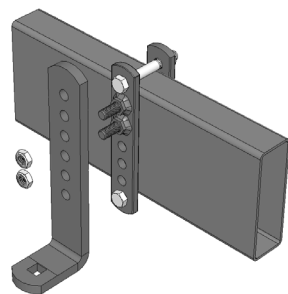

Figure 10
Slide the L-brackets onto the link plate studs with the spring arm plate facing away from the trailer. For the initial setup, leave two (2) holes showing at the top above the studs and two (2) below. They may need to be adjusted up or down later. Thread on the nylock nuts and tighten them. *See Figure 10.* When weight distribution setup is complete, torque the L-bracket nuts to 75 ft-lbs.